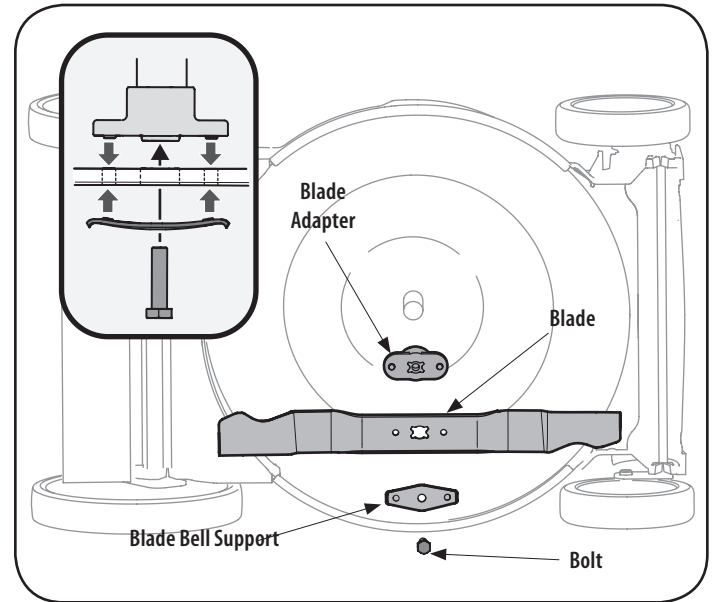

Figure 14
3. Remove the bolt and the blade bell support which hold the blade and the blade adapter to the engine crankshaft. See Figure 14.
6. Lubricate the engine crankshaft and the inner surface of the blade adapter with light oil. Slide the blade adapter onto the engine crankshaft. Place the blade on the adapter such that the side of the blade marked "Grass Side" (or with part number) faces the ground when the mower is in the operating position. Make sure that the blade is aligned and seated on the blade adapter flanges. See Figure 14 inset.